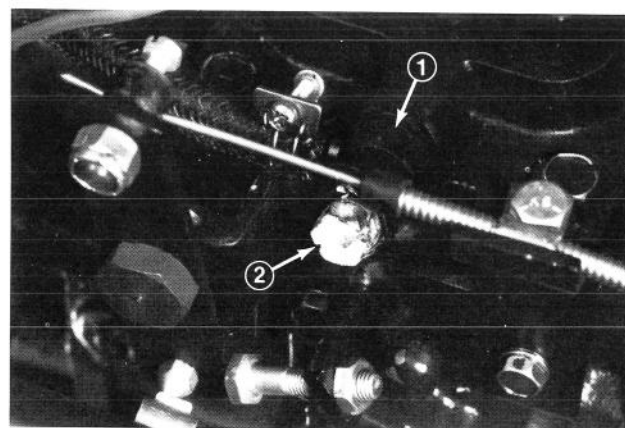

Figure 29
4. Open the air bleed screw on the fuel injection pump (Fig. 29) with a 12 mm wrench.